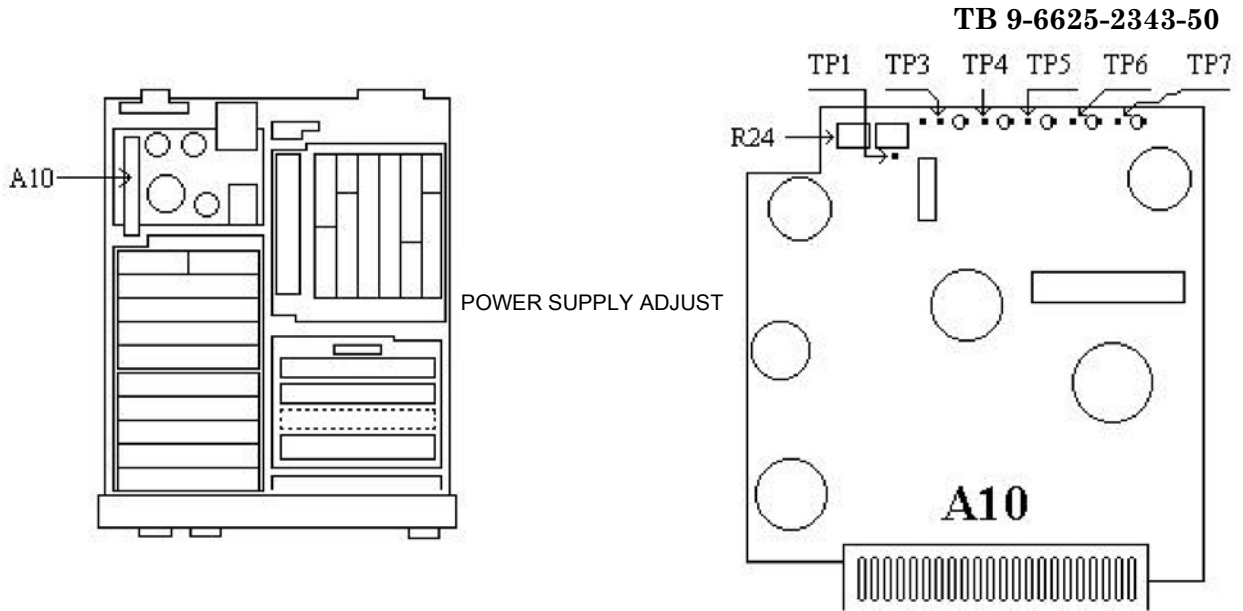
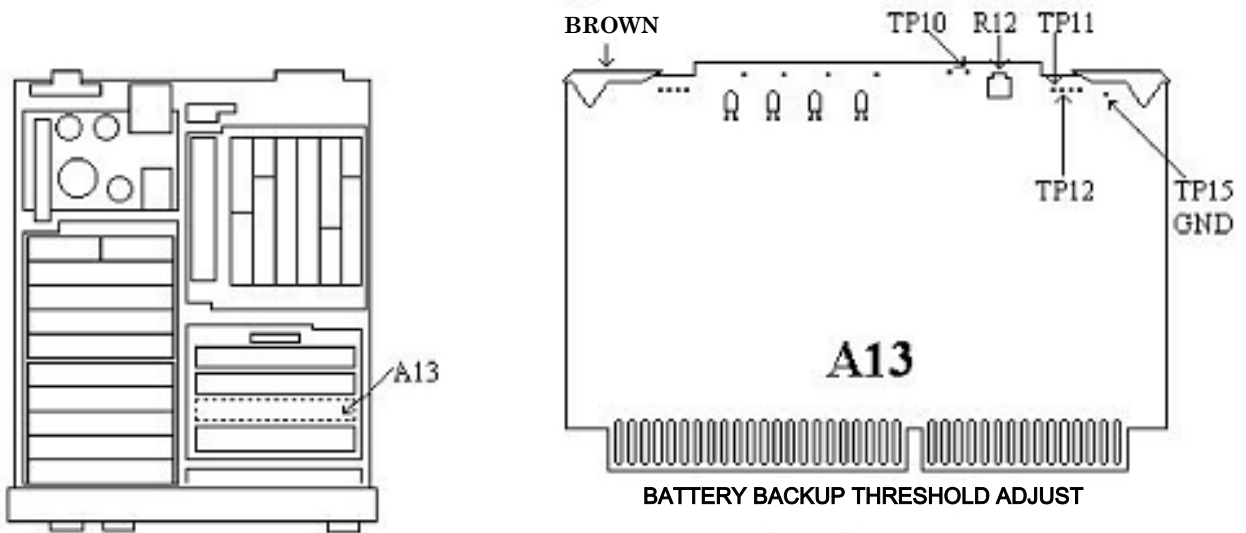

Figure 20. A10 board.
Figure 21. A13 board.
- (1) Connect digital multimeter between TP1 (fig. 20) (ground) and TP3 (fig. 20) (positive), and set digital multimeter to read V dc.
- (2) If digital multimeter indication is not between 14.99 and 15.01 V dc perform **b** below.
- (3) Move positive lead from TP3 to TP4 (fig. 20) and verify digital multimeter indicates between -15.2 and -14.8V dc.
- (4) Move positive lead from TP4 to TP5 (fig. 20) and verify digital multimeter indicates between 4.9 and 5.2 V dc for serial number 2305A to 2616A and between 5.1 and 5.2 V dc for serial number 2618A and above.
- (5) Move positive lead from TP5 to TP6 (fig. 20) and verify digital multimeter indicates between -4.9 and -5.2 V dc for serial number 2305A to 2616A and between -5.4 and -4.9 V dc for serial number 2618A and above.
- (6) Move positive lead from TP6 to TP7 (fig. 20) and verify digital multimeter indicates between 40.5 and 42.5 V dc.
- (7) Disconnect digital multimeter from A10 board.
(8) Connect digital multimeter to A13TP10 (fig. 21) (positive) and A13TP15 GND (fig. 21) (negative).
- (9) Measure and record dc voltage as level No.1.
- (10) Move positive lead from A13TP10 to A13TP12 (fig. 21) and record dc voltage as level No. 2.
- (11) Calculate  $\frac{2}{5}$  of level No. 1 and  $\frac{1}{6}$  of level No. 2.
- (12) Multiply the lowest voltage calculated in (11) above by 0.95 and record as threshold.
(13) Move positive lead from A13TP12 to A13TP11 (fig. 21) and adjust A13R12 (fig. 21) until digital multimeter indicates within  $\pm 0.05$  V of threshold value. (R)
(14) Disconnect equipment setup.
**b. Adjustments.** Adjust A10R24 (fig. 20) for a digital multimeter indication of 15 V  $\pm 0.01$  V dc. (R)